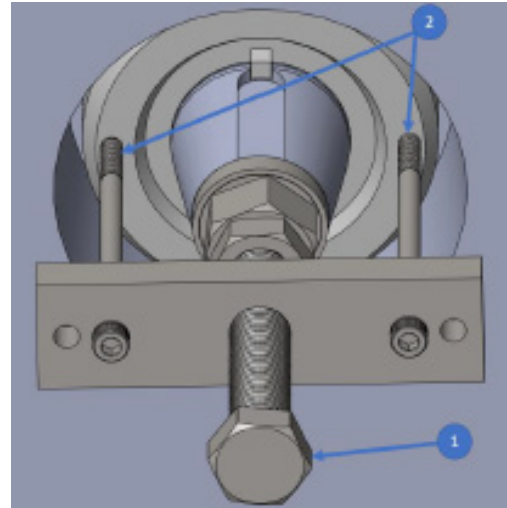

Figure 5. Removal Tool
- To remove the seal, assemble the removal tool as shown in Figure 5. Thread item 2 into the seal. Rotate item 1 to pull the seal assembly out of the pump cavity.